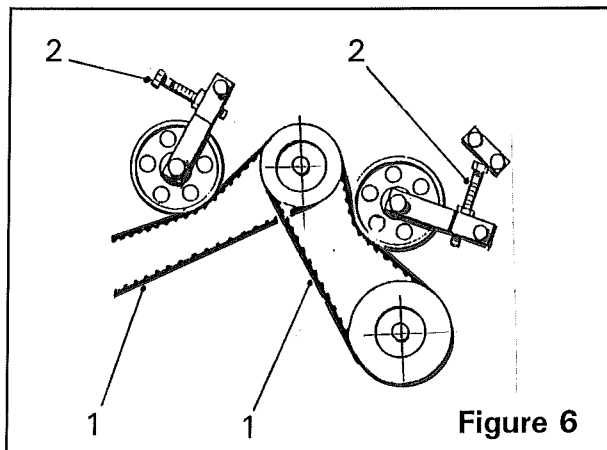

Figure 6
The toothed belts (*item 1, figure 6*) transmit the drive from the hydraulic motor (*item 8, figure 5*) to each of the individual rotors. Never allow the belts to run slack as this will result in their premature failure. To adjust the belts, remove the drive guard and turn the belt tension adjuster screws (*item 2, figure 6*) until the correct tension is achieved. The correct adjustment should allow 5-7mm deflection at a point mid-way between the pulleys. After the necessary adjustments have been made, always replace the guard.